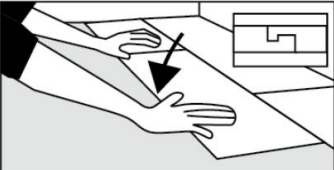

Figure 4
12. let the short side of the plank fold down until the tongue and groove lock together on the side and ends (**Figure 4**)